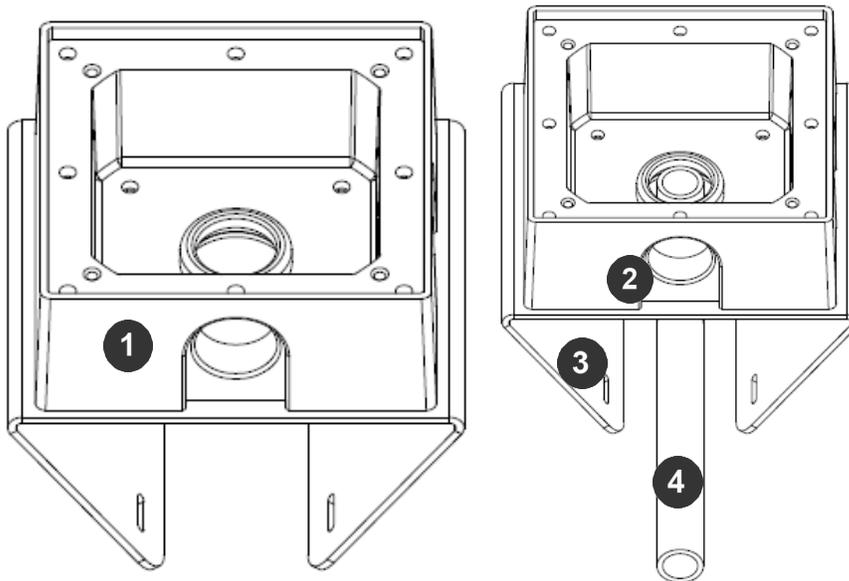

Figure 15: Attach conduit to the junction box adapter on the AV-SWMJB wall mount
3. Attach the AV-SWMJB Wall Mount to the Pole Mount Adapter (AV-PMA, Figure 15).
4. Remove the conduit plug on the junction box adapter and connect 3/4" NPT conduit to the junction box adapter (Figure 15).
6. Attach the Wall Mount Adapter (AV-SWMJB) to the Pole Mount Adapter (AV-PMA) as shown in Figure 15.